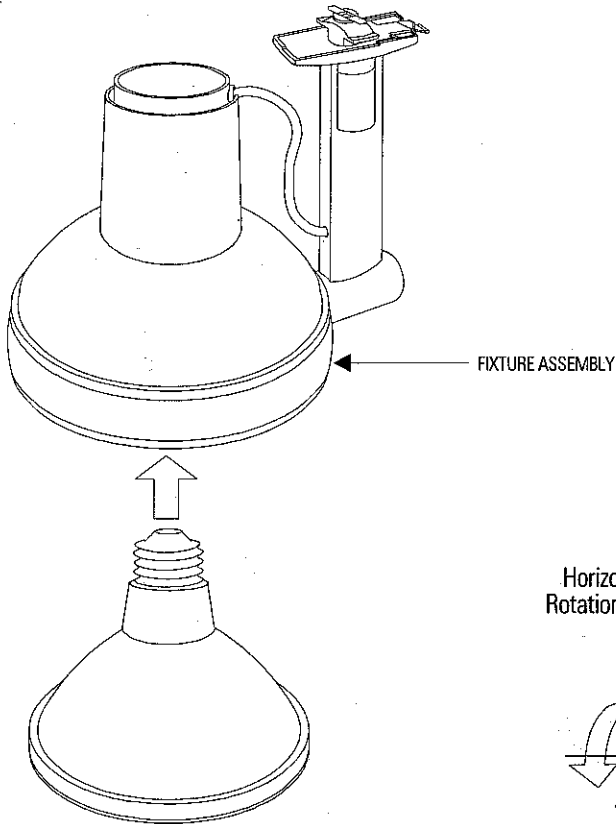

FIG. 5
2. Screw lamp into FIXTURE ASSEMBLY as shown (Fig. 5).
3. To aim FIXTURE, rotate as shown. (Fig. 5)